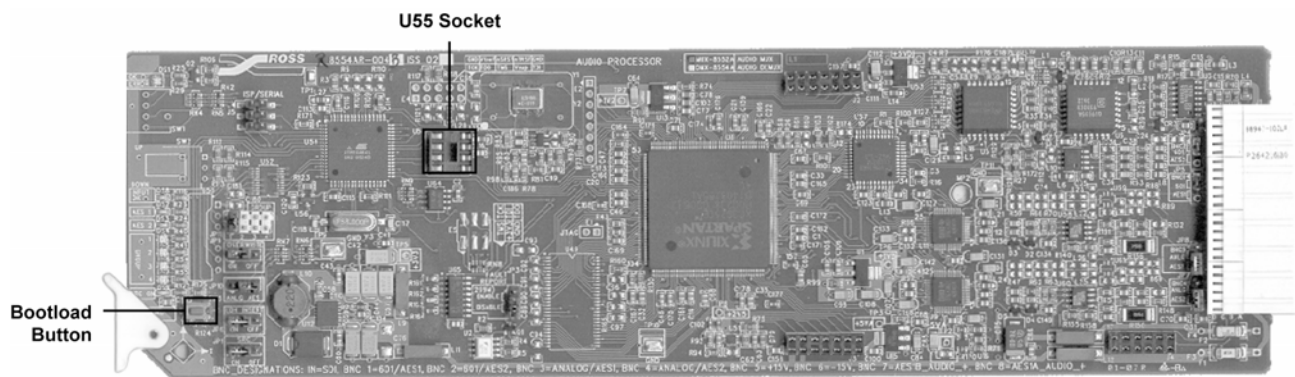

Figure 10 – MUX-8552A Upgrade Socket and Label Locations
1. With the card out of the frame, refer to Figure 10 and the card labeling to locate chip socket **U55**.
1. With the card out of the frame, refer to Figure 10 and the card labeling to locate the **U55** socket.